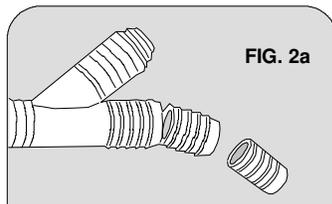

FIG. 2a
3. Universal barbs on the ET116-001 will accommodate the various (IDs) inside diameters dishwasher hoses. Determine which size is required by sliding open end of the hose over the stepped barbs until one fits snugly. If the hose fits snugly over the middle or largest barb, you must cut away the smaller barb(s) with a hacksaw. Use the grooved "cut lines" provided, then smooth away any burrs. (See Fig. 2a)